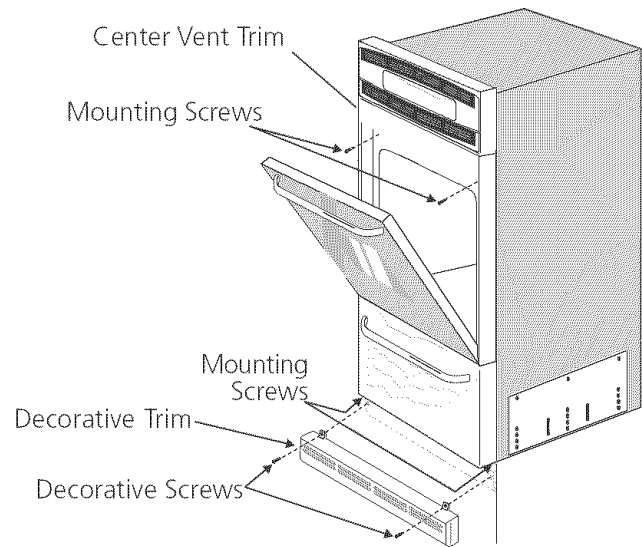

Figure 5
To fasten the appliance to the cabinet (figure 5):
2. **Optional:** Install the decorative trim under the appliance (as shown on figure 5) using the 2 decorative screws supplied with the appliance.